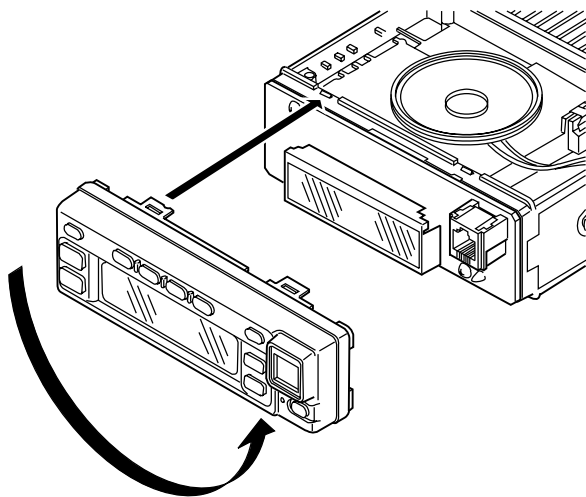

Fig. 16
6. Rotate the control panel 180 degrees and mount it on the transceiver. Refit the two halves of the case to complete installation. (Fig. 16)